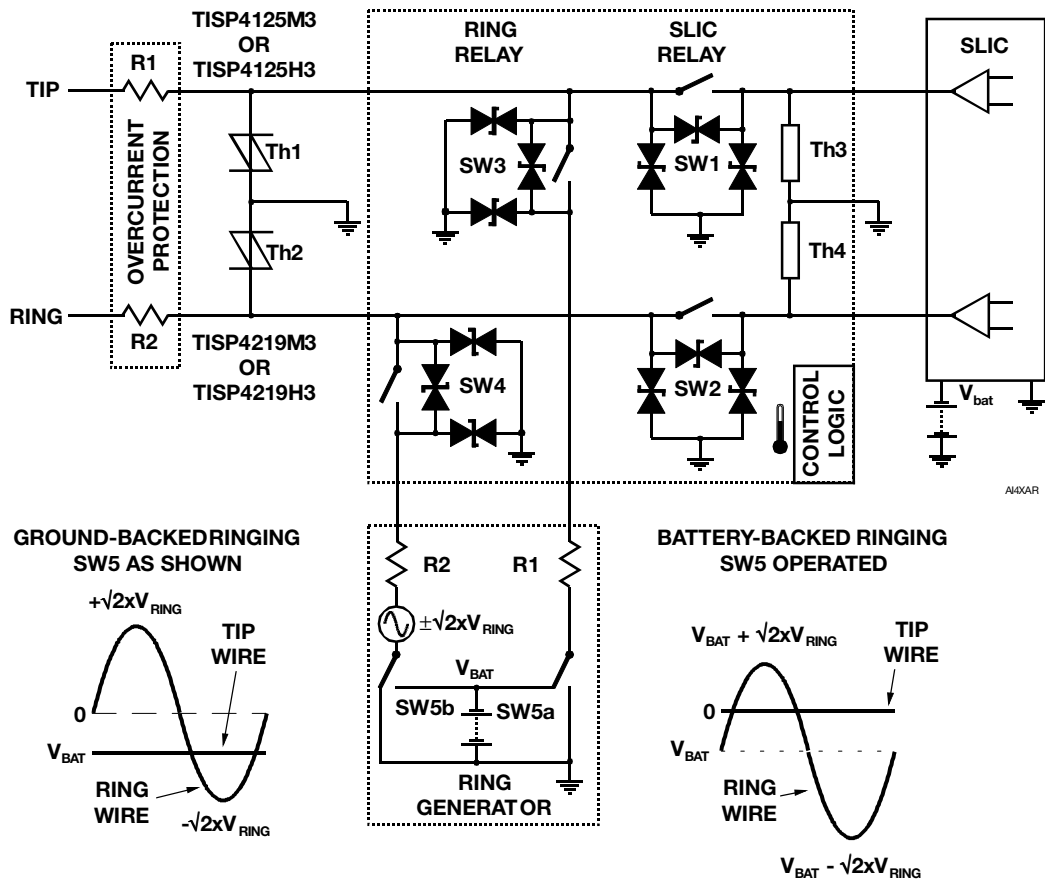

Figure 13. LCAS Shown with Switch Breakdown Limits
Figure 13 shows the LCAS switch voltage ratings as breakdown diodes, which must not be allowed to conduct. Each switch has three diodes; one between poles and the other two from each pole to ground. At 25 °C, switches SW1 through to SW3 have breakdown diode voltages of ± 320 V. Switch SW4 has breakdown diode voltage values of ± 465 V for the one between poles and ± 320 V for the two diodes connected to ground. Note that only protection to ground is required, as in the limit, the inter-switch voltage limitation of ± 640 V is the same as the switch to ground limitation of ± 320 V and ± 320 V in both polarities.
- ground-backed and battery-backed ringing configurations (see Figure 13).